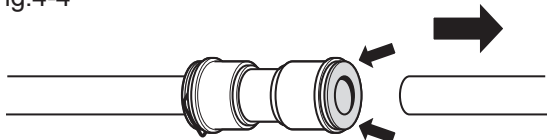

Fig.4-5
1. Undo the hinge cover screw and remove the cover (Fig.4-5). Disconnect all wires except for the grounding wire.